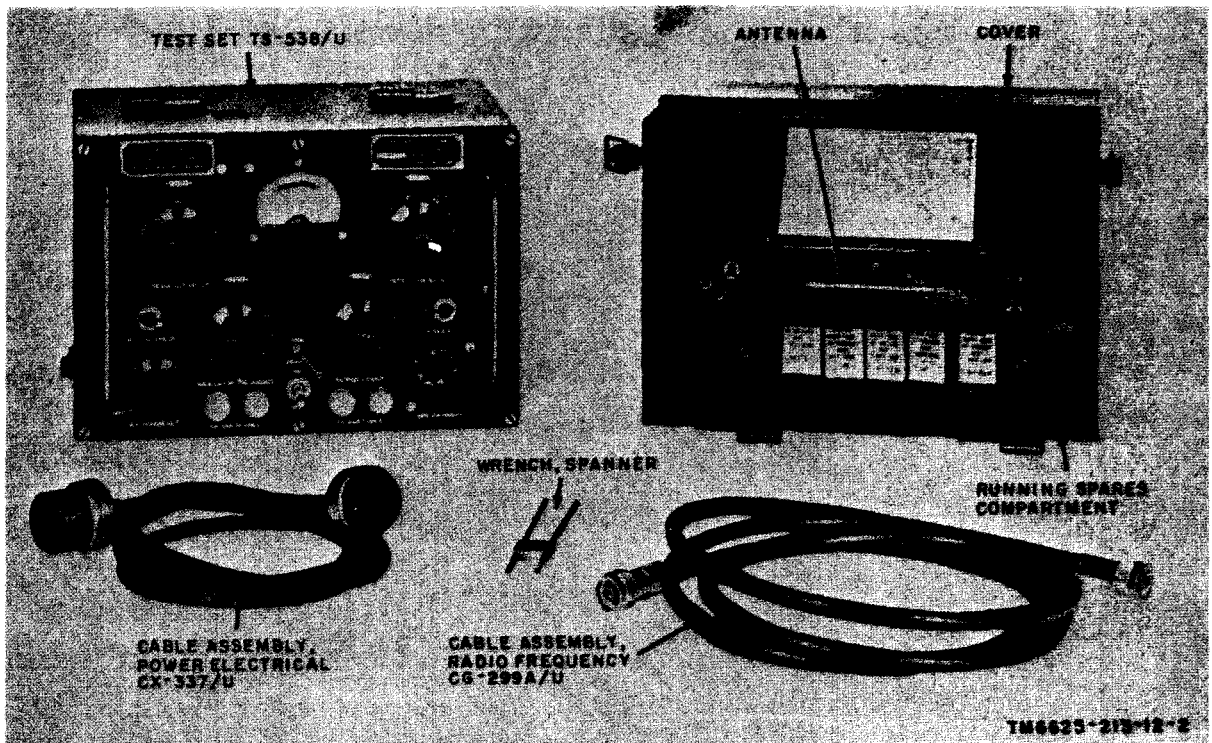
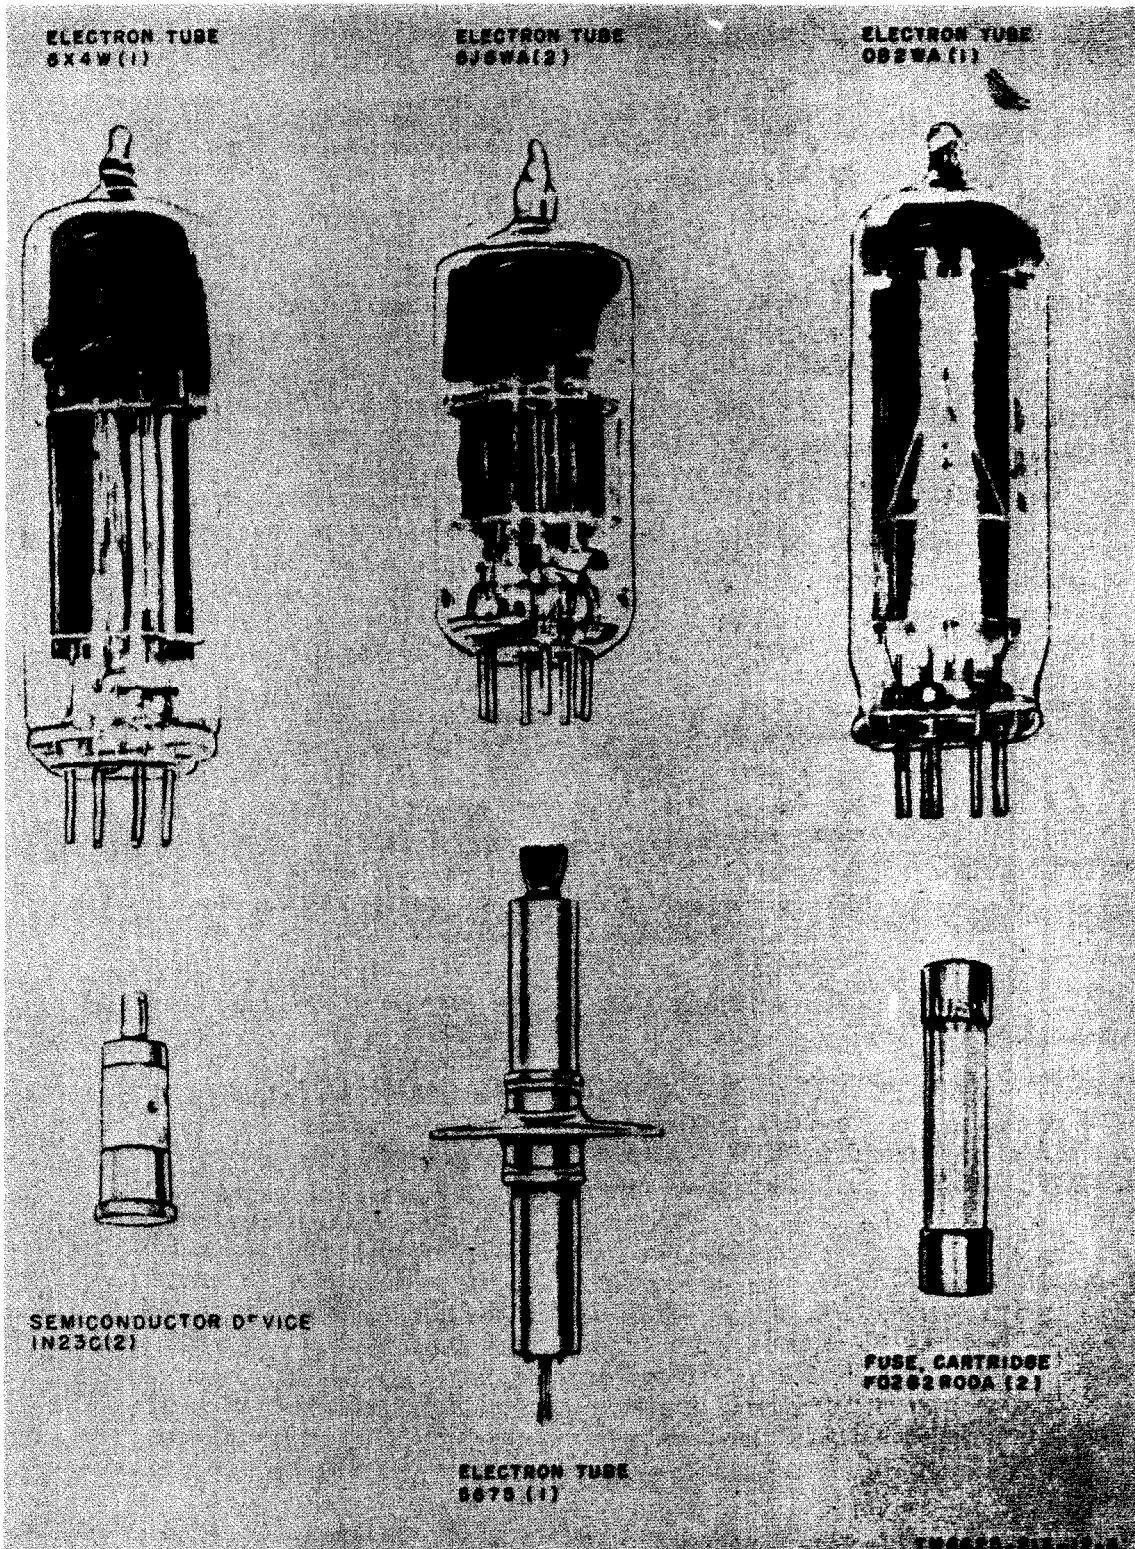

Figure 1. Test Set TS-538(\*)/U.
Figure 3. Running spares.
a. This manual describes Test Sets TS-538/U, TS-538A/U, TS-538B/U, and TS-538C/U (fig. 1) and covers their installation, operation, and operator's and organizational maintenance. It includes cleaning and inspection of the equipment, and replacement of parts available to first and second echelon maintenance.
The components of Test Set TS-538(\*)/U are listed in appendix III. The major components are illustrated in figure 1. The running spares are illustrated in figure 3.
Test Set TS-538(\*)/U is portable and weighs about 23.5 pounds. Except for a primary source of electrical power, it is completely self-contained. Connection to an alternating current (ac) power source is provided by a cable stored in the cover. When the test set is used as a frequency meter to check a transmitter, ac line power is not required. When it is used as a signal generator, its radiofrequency (rf) output may be radiated from a short antenna or it may be conducted by cable to the receiver under test. Both the rf cable and the antenna are stored in the cover. All dials are calibrated directly. A chart is provided for converting the -DBM dial readings to microvolt of signal across a 50-ohm line. Figure 1 shows the test set and major assemblies.